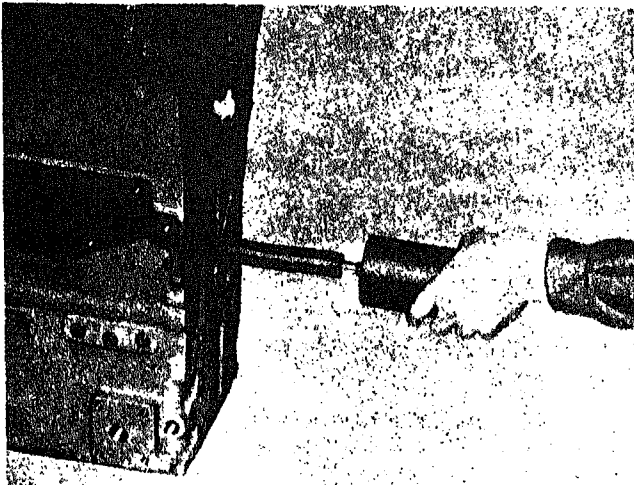

Fig. 1-1-13. Installing camshaft bushing
4. Drive in position so oil holes are aligned, Fig. 1-1-13.